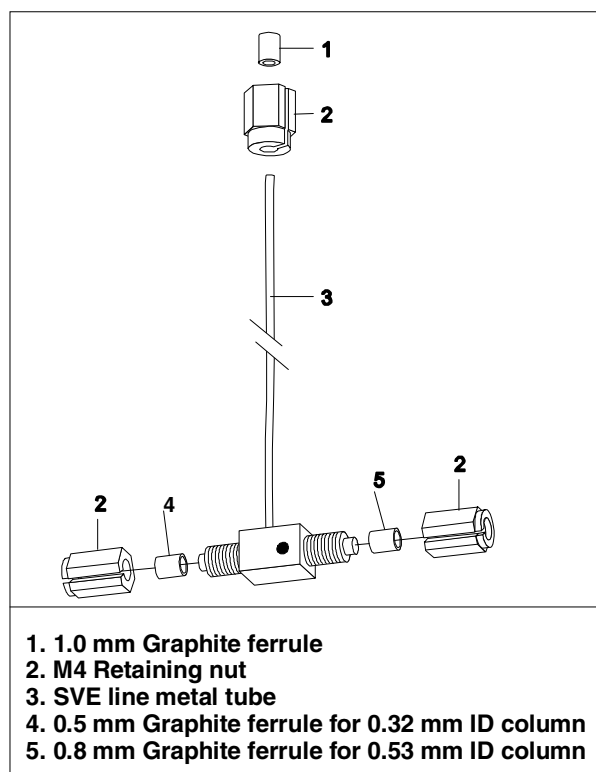

Figure 2-5. T-connection assembly
- T-connector with M4 column retaining nuts and graphite ferrules, as shown in Figure 2-5.